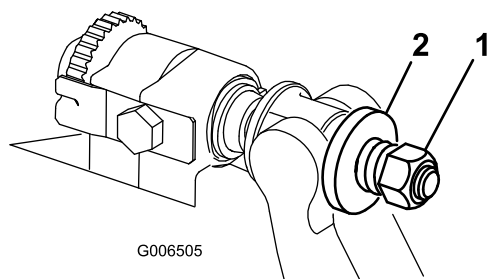

Figure 35
- Tighten spring tension nut until spring is collapsed, then back off 1/2 turn (Figure 35).